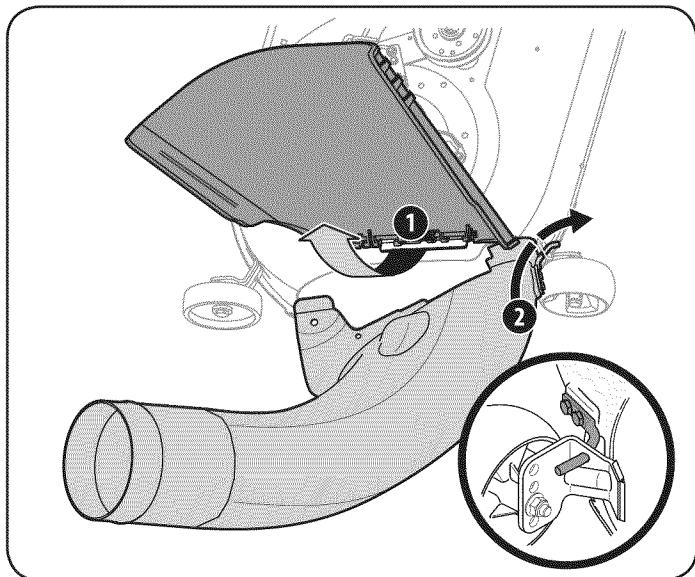

Figure 16
- With the tractor's discharge chute raised up and held open (1), install the chute elbow by placing the chute elbow mounting rod into the hole provided in either your deck wheel bracket or chute mounting tab (2), as seen in Figure 16.